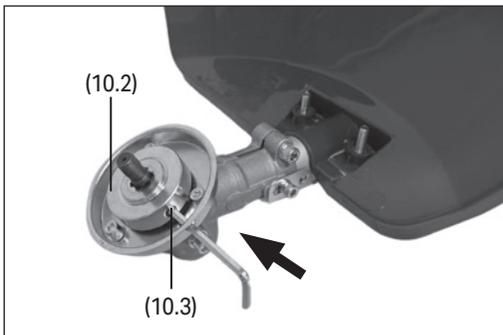

Fig.28
3. Unlock the locking nut (25.3) using the spark plug spanner (28) and screwdriver (31) supplied. Turn clockwise to loosen.
10.8 Removing the complete Spool Assembly (Fig.28 – Fig.29)